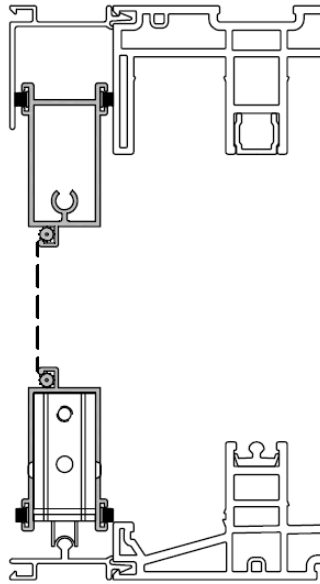

Figure 24
- Position panel so that top of panel slips into frame header fin. Swing bottom of panel in until bottom of panel is aligned over sill add-on track and set panel roller on track. (See Figure 24)